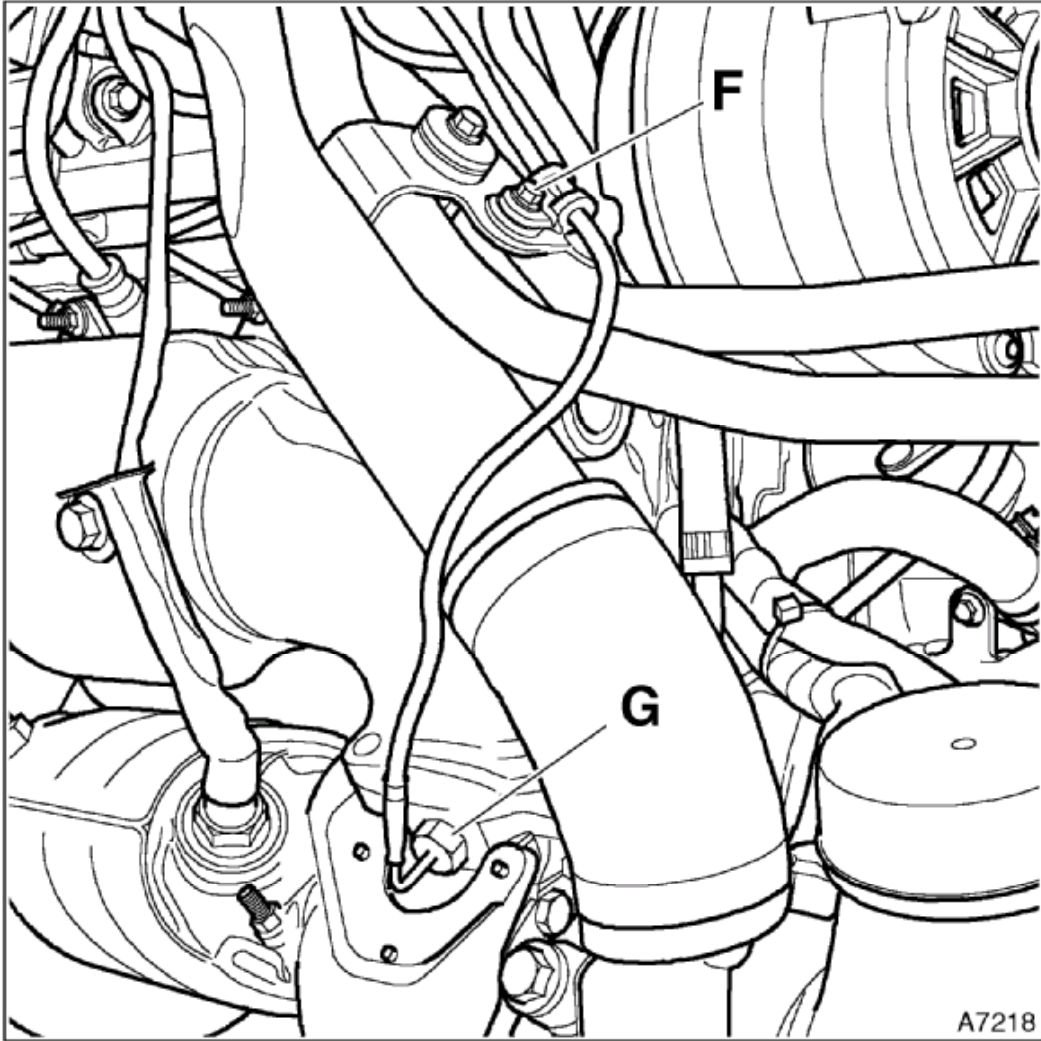

Figure. 4
5. Remove the screw from the 'P' clip F, which secures the sensor cable to the chargecooler inlet pipe. See figure 4.
6. Loosen the retaining nut, and then carefully pull the sensor probe G, from the turbocharger flange. See figure 4.